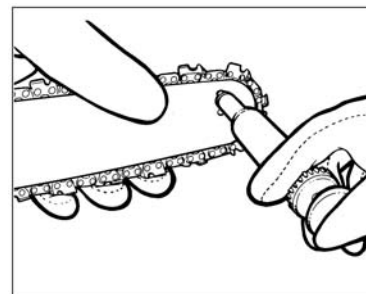

Fig. 14
3. Using disposable Lube gun, insert needle nose into the lubrication hole and inject grease until it appears at the outside edge of the sprocket tip (Fig.14).